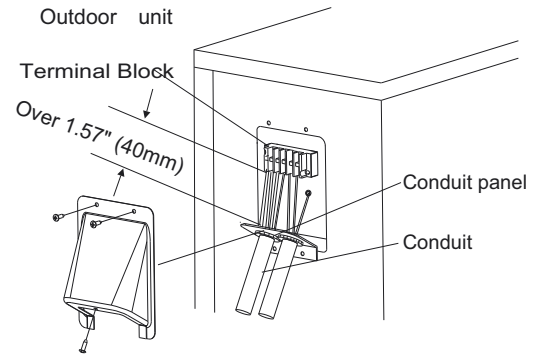

Fig. 9 – Field Wiring
5. Connect the conduit to the conduit panel (see Fig.9).